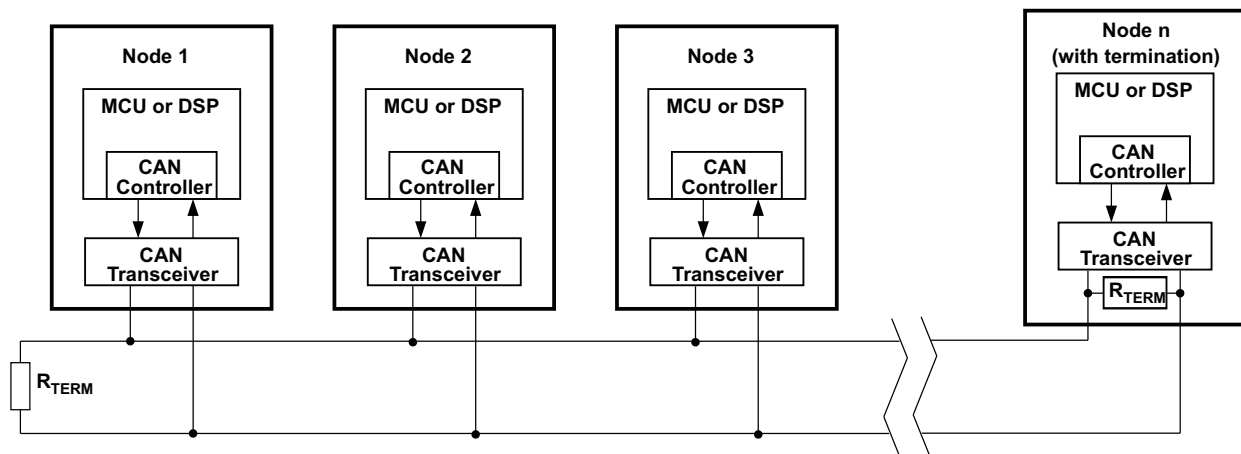

Figure 33. Typical CAN Bus
The diagnostic loopback or internal loopback function of the SN55HVD233-SEP is enabled with a high-level input on pin 7, LBK. This mode disables the driver output while keeping the bus pins biased to the recessive state. This mode also redirects the D data input (transmit data) through logic to the received data output (R), thus creating an internal loopback of the transmit-to-receive data path. This mimics the loopback that occurs normally with a CAN transceiver because the receiver loops back the driven output to the R (receive data) pin. This mode allows the host microprocessor to input and read back a bit sequence or CAN messages to perform diagnostic routines without disturbing the CAN bus. Figure 33 shows a typical CAN bus application.